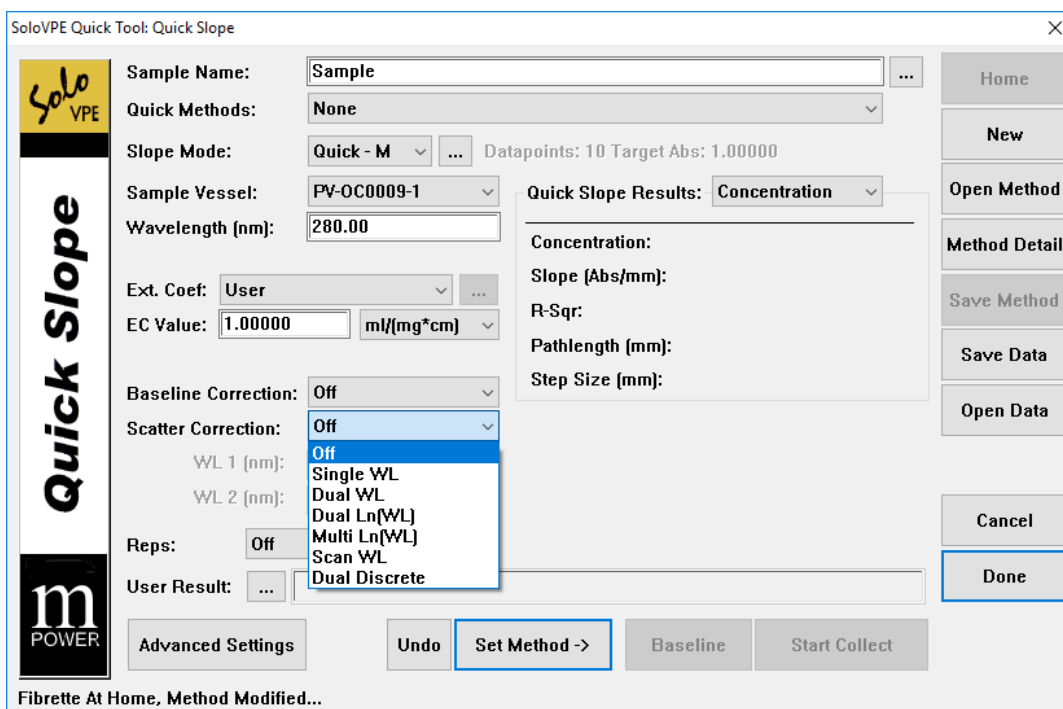

Figure 48. Quick Tool: Scatter Correction options.
- Scatter Correction Algorithm: The dropdown list box displays available scatter corrections routines. The user makes a scatter correction option from this list. There is a total of six options to choose from for scatter correction (see Figure 48), which will be outlined in the following section.